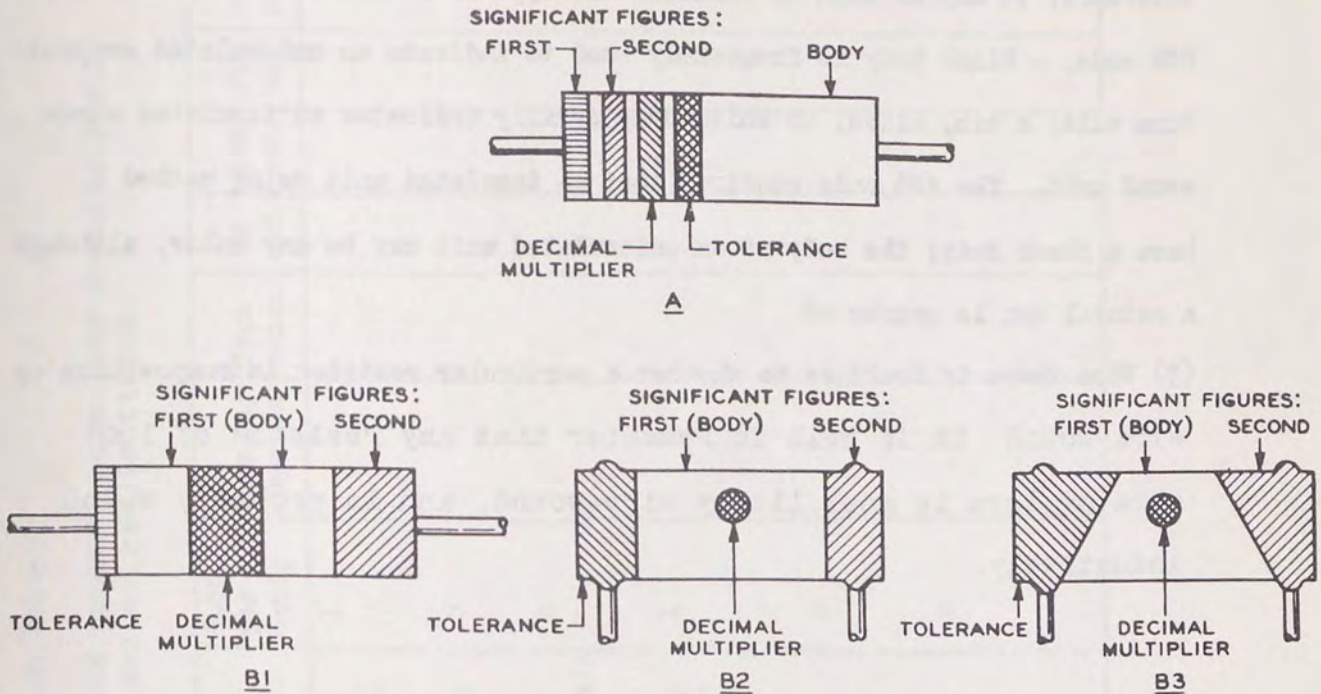

Figure 14. Fixed resistors, RMA and AWS color codes.
(2) As illustrated by figure 14, two methods are used for indicating the resistance and tolerance:
Method 1. This method makes use of four colored bands, starting at one end of the unit, to show resistance and tolerance (A of fig. 14). The bands, reading from left to right, indicate: first significant figure, second significant figure, decimal multiplier, and percent tolerance. (The significance of the body color under this method will be explained later.)
Method 2. Several variations of this method are in use (B1, B2, and B3 of fig. 14). With all of these variations, however, the interpretation of the code is practically the same: the left end gives tolerance; the body, the first significant figure; the right end, the second significant figure; and the central dot or band, the decimal multiplier.